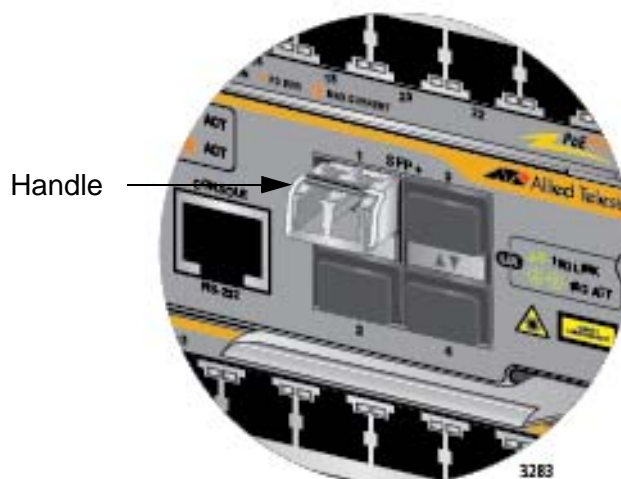

Figure 179. Positioning the Handle on the Transceiver
5. Verify the position of the handle on the transceiver. If the transceiver is in slot 1 or 3, the handle should be in the upright position, as shown in Figure 179 on page 294. If the transceiver is in slot 2 or 4, the handle should be in the down position.